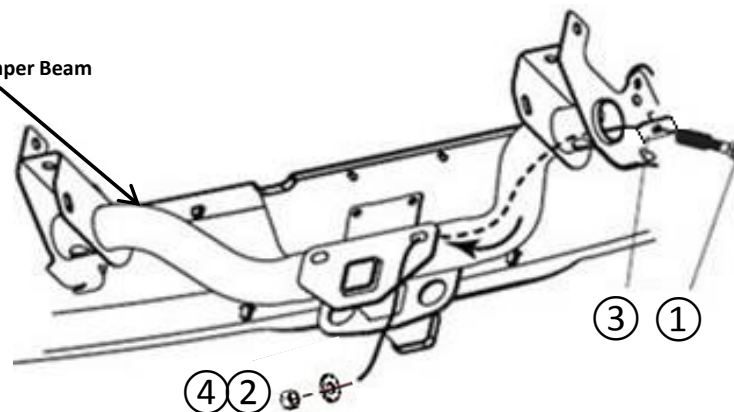

Figure 2
4. Insert pull wire through the mounting hole and out of the tube. (See fig. 2)
5. Route carriage bolt and reinforcement plate through the bumper beam and hitch mounting slots. (See fig. 2)